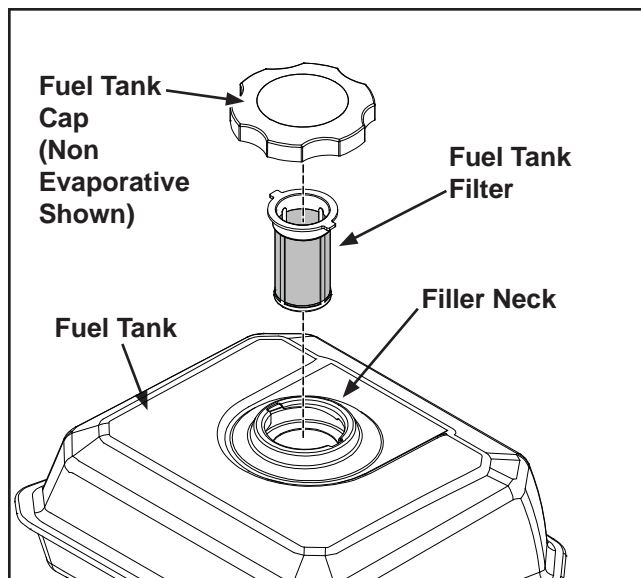

Figure 5-2. Fuel Tank Fuel Filter.
1. Remove the fuel tank cap and filter. See Figure 5-2.